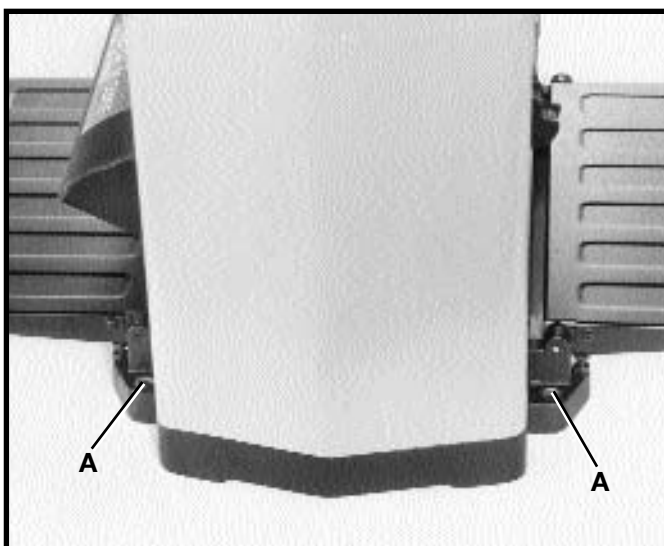

Fig. 9
During operation, if there is any tendency for the planer to tip over, slide or "walk" across the supporting surface, the planer must be secured to the supporting surface through the four holes in the base, two of which are shown at (A) Fig. 9.